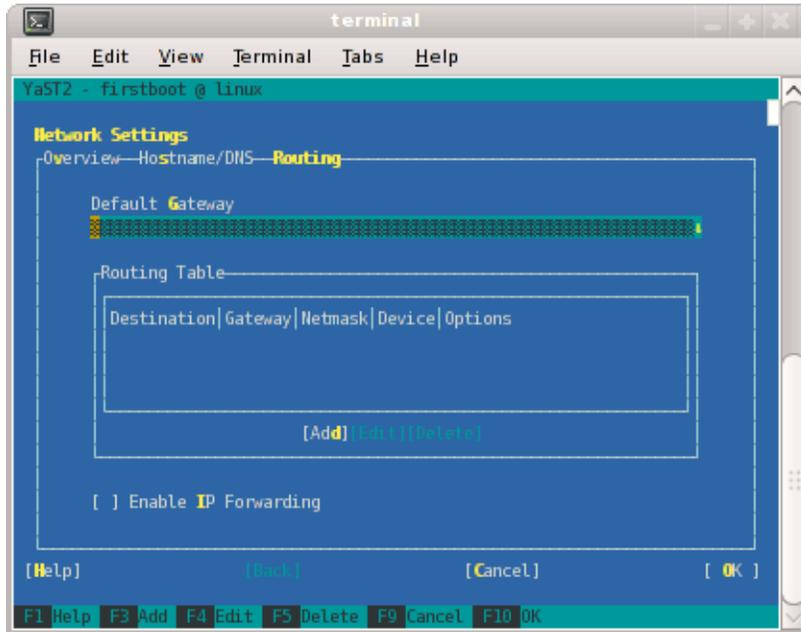

Figure 1-9 Network Settings Routing Screen
10. Select **Routing** shown in Figure 1-9 on page 10 and enter your house/public network default router information there. Now you can select **OK**.